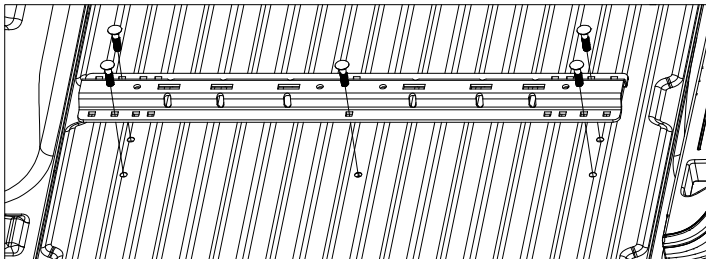

Figure C1: View looking into truck bed from rear of truck.
1. **Install the rear mounting rail.** Re-position the rear mounting rail over the drilled 9/16" holes in the bed. Install a 1/2" Carriage bolt through the mounting rail into each of the five drilled holes, as shown in figure C1.